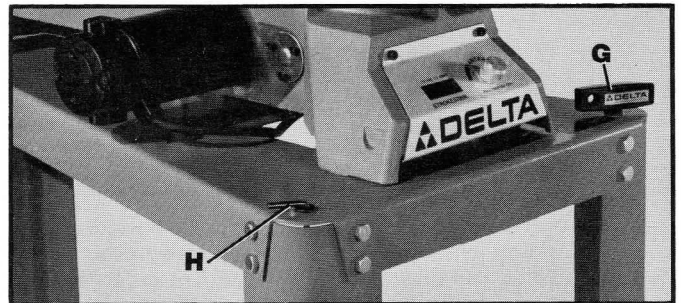

Fig. 9
5. Insert wrench (G) and blade changing pin (H) into the two grommets, as shown, in Fig. 9.